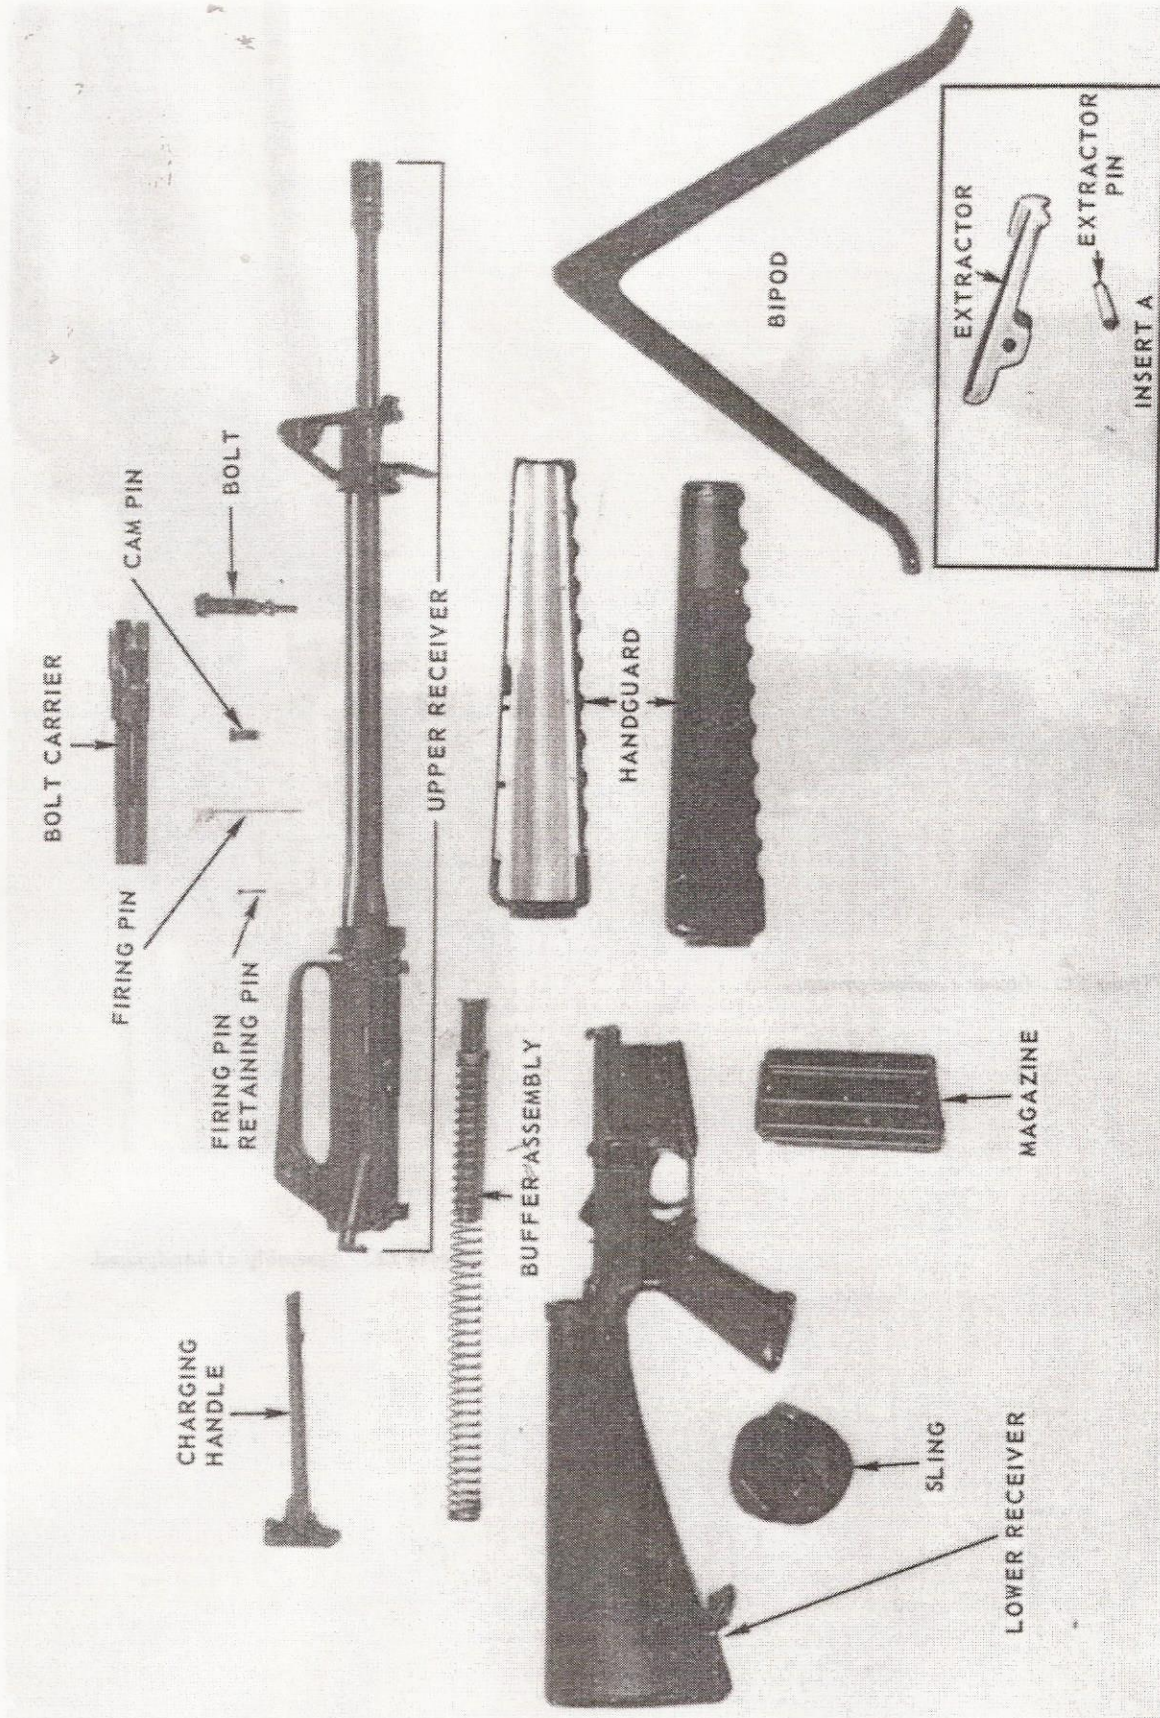

Figure 20. The M16A1 rifle field stripped.
h. This completes field stripping (fig 20).